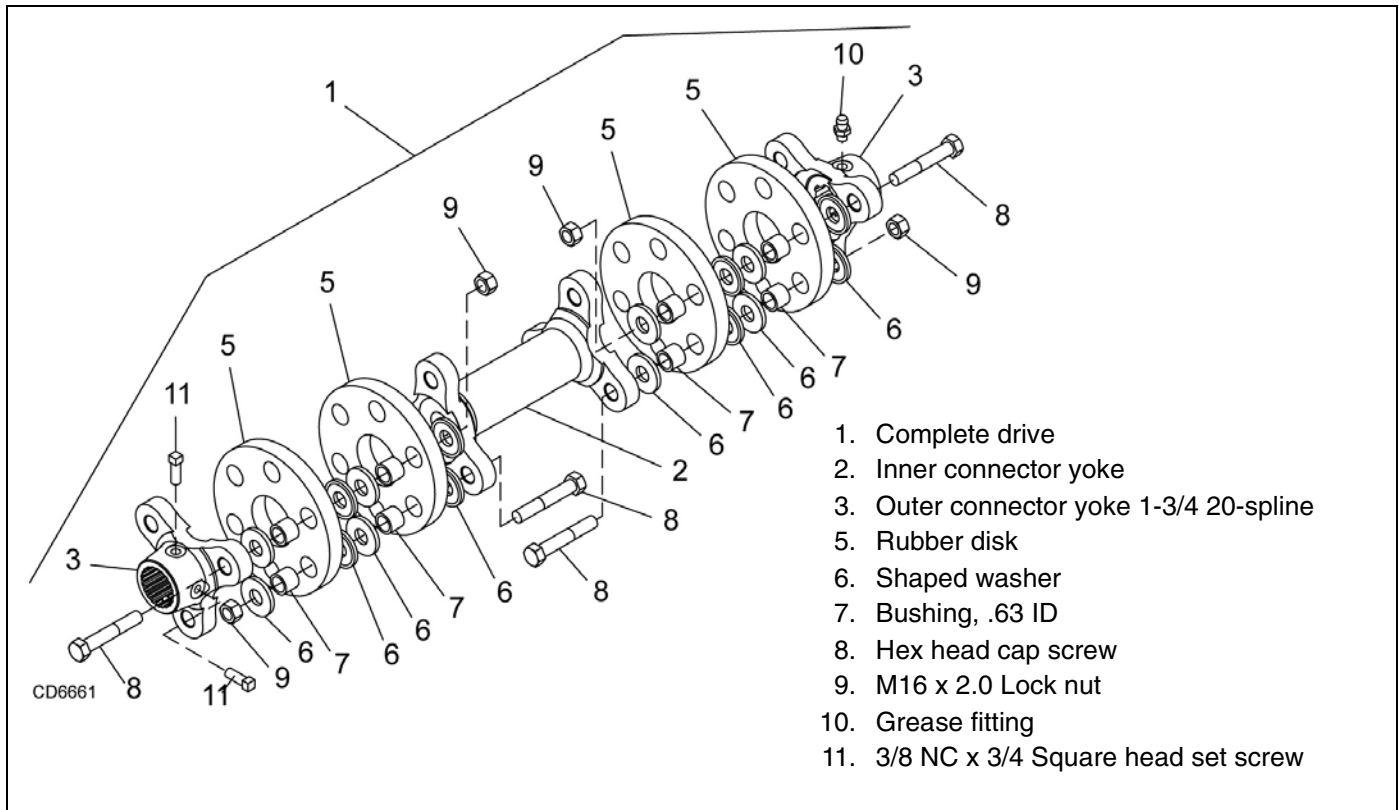

Figure 14. Flexible Coupler
To replace the disks, remove hardware items 6, 7, 8, and 9. Remove sleeves (7) from old disk and install in new disk. Reassemble and torque bolts to 85 lbs-ft. See Figure 14. Take special care not to rotate gearbox shaft and throw blades out of time. If rubber disks have failed and blades are hitting, you will need to re-time the blades per instructions on page 35.